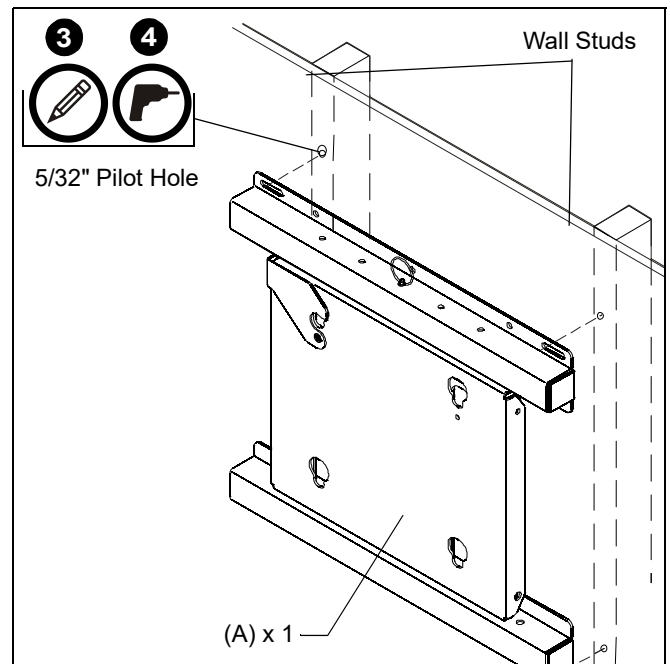

Figure 3
3. Place mount assembly (A) against wall, level mount, and mark four pilot hole locations (See Figure 3).
4. Drill four 5/32" pilot holes at marked locations. (See Figure 3).